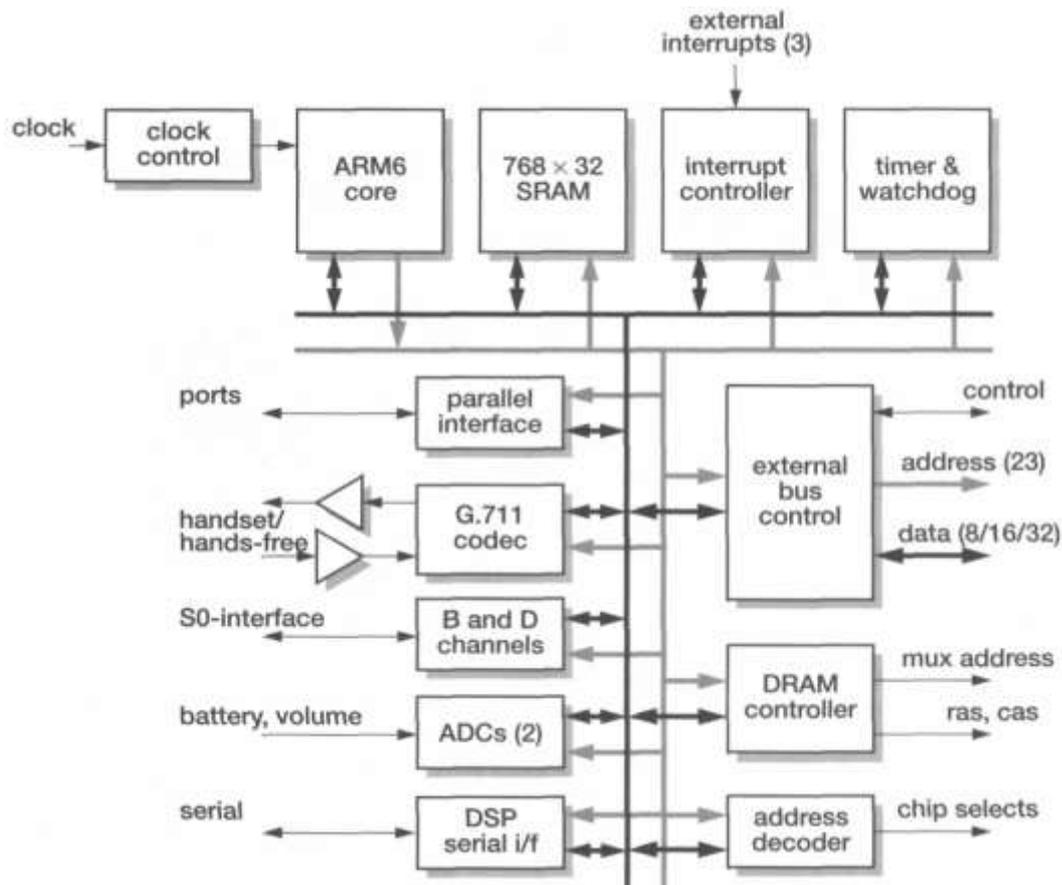
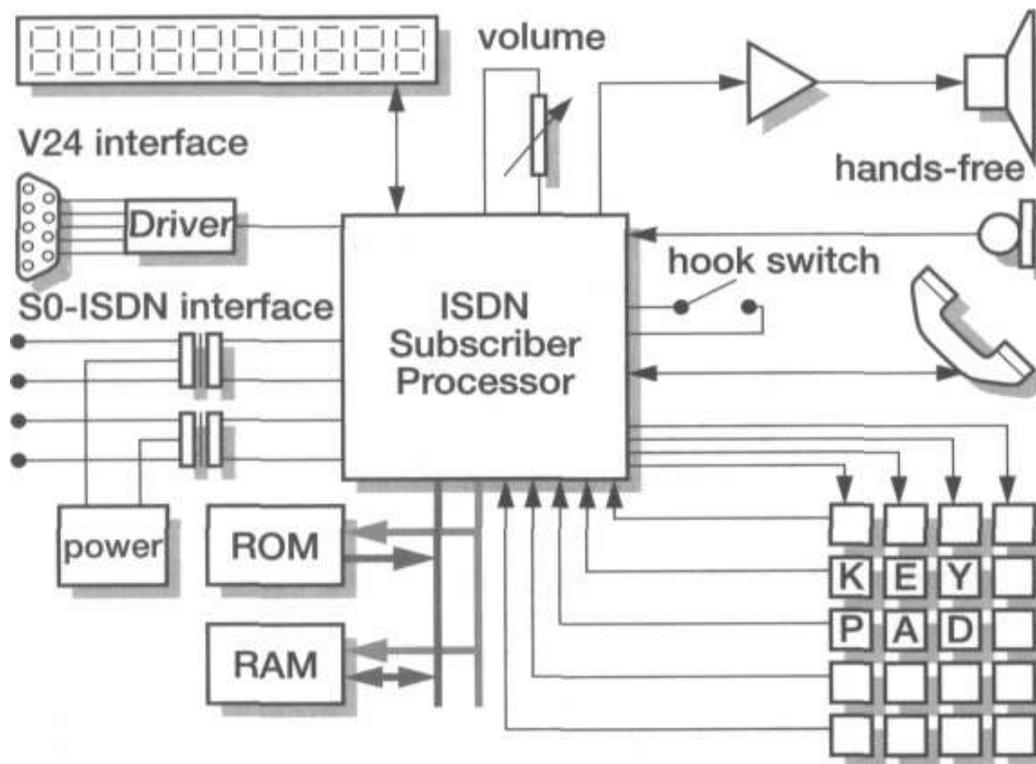

Figure 13.2 VIP organization.
Figure 13.3 Typical VIP system configuration
- ❖ The organization of the VIP chip is illustrated in Figure 13.2 and a typical system configuration is shown in Figure 13.3